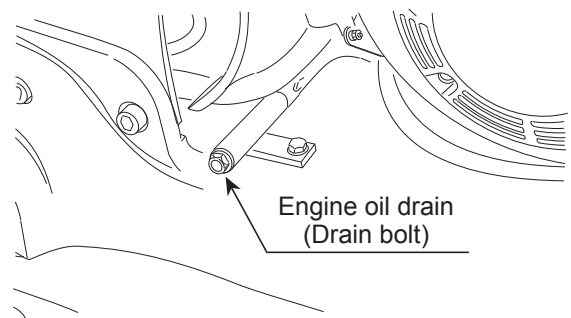

Figure 27. Draining Engine Oil
1. Remove the oil drain bolt (Figure 27). and sealing washer and allow the oil to drain into a suitable container.